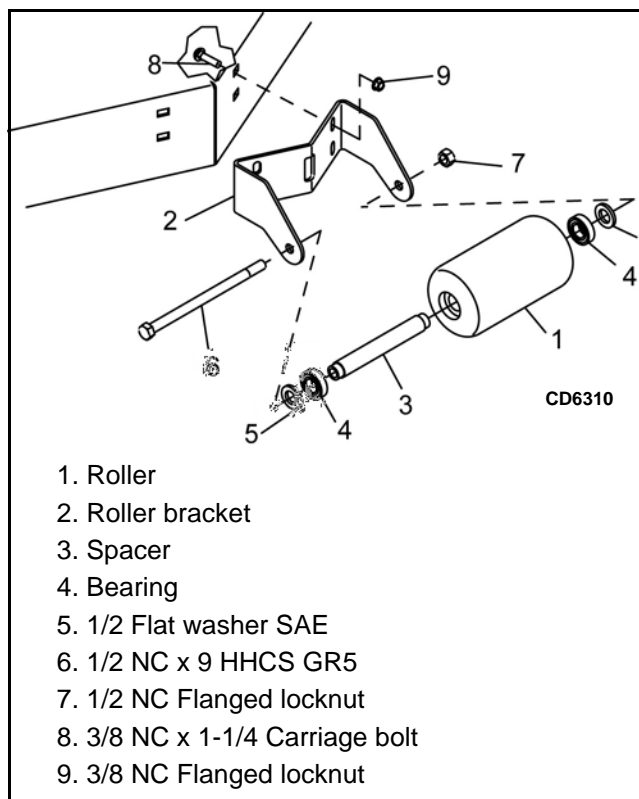

Figure 30. Front Roller Installation
1. Insert four carriage bolts (8) through the front mower frame from inside out.
2. Place roller bracket (2) over bolts; then install flange lock nuts (9) on bolts and tighten.
3. Place front roller (1), sleeve (3), bearings (4), and washers (5) in roller bracket as shown in Figure 30.
4. Insert cap screw (3) through bracket and roller.
5. Secure with flanged lock nut (2). Do not overtighten, roller must spin freely.